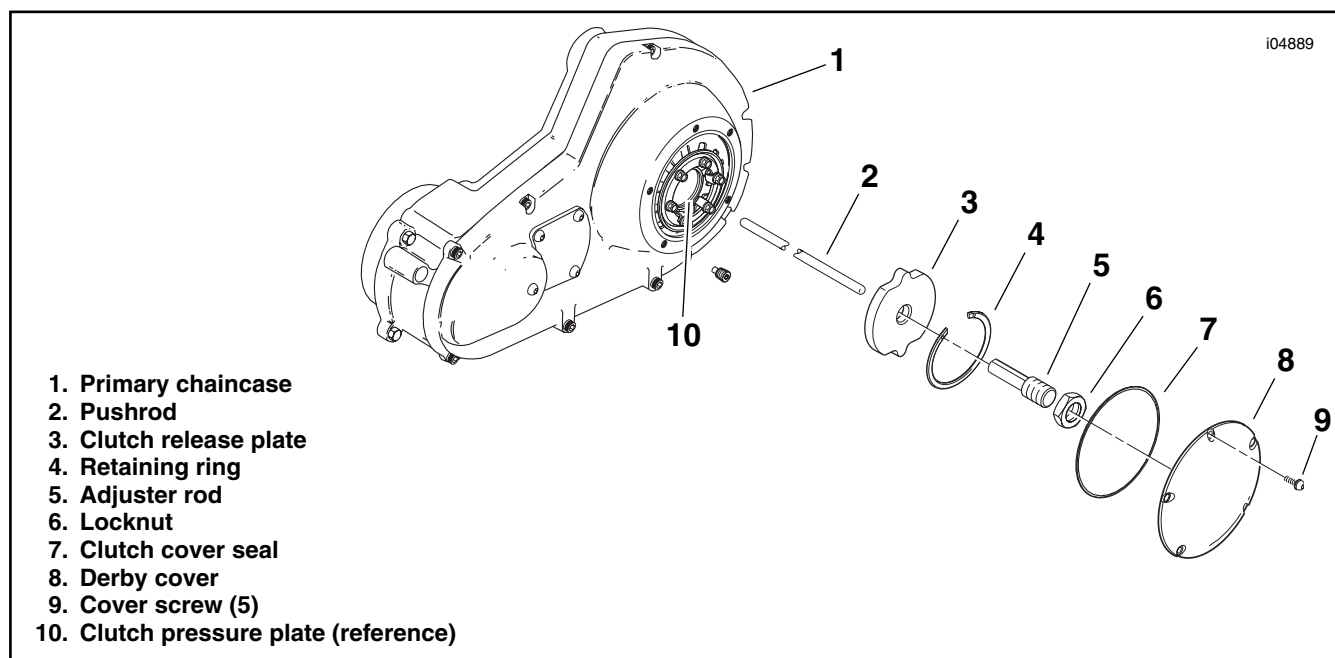

Figure 3. Clutch Pushrod Removal
14. If necessary, remove the **left-side** passenger footpeg or footboard. See Figure 3. Using a T27 TORX drive head, remove the clutch-inspection (derby) cover (8) from the primary chaincase (1).
15. Remove the clutch release plate retaining ring (4) and discard. Remove the release plate (3), adjuster rod (5) and nut (6) as an assembly, and discard.
16. Extract the pushrod (2) by pushing it through from the right (transmission side cover) side until it can be grasped through the clutch pressure plate (10). Pull the pushrod out of the chaincase opening and discard it.